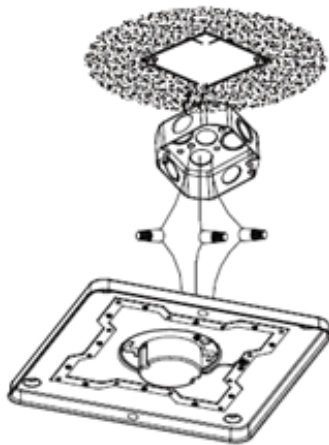

Figure 4
4. Connect the black and white wires of the luminaire with two wires of the same color from the junction box with wire caps. Connect the grounding wire of the luminaire with the one from the junction box with wire cap (figure 4).